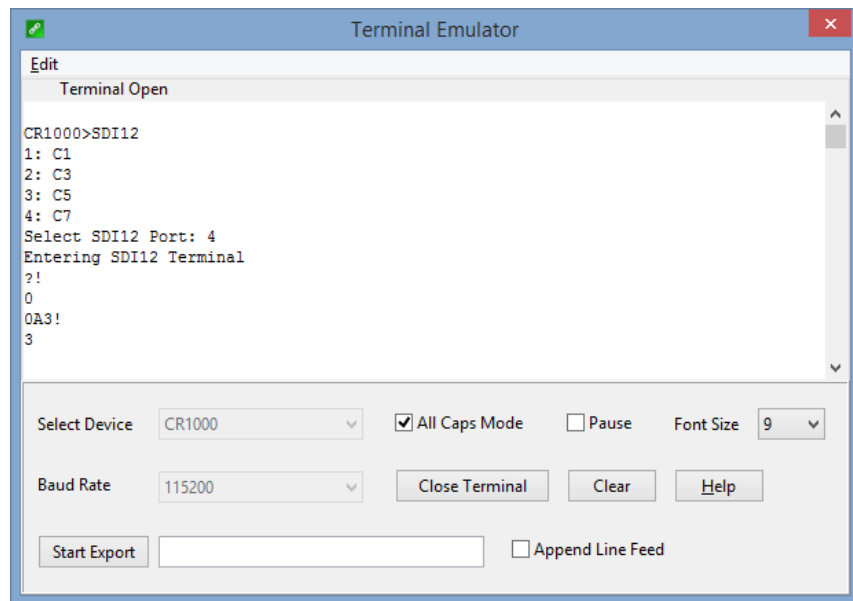

FIGURE D-1. CR1000 example of using the SDI-12 transparent mode to change the SDI-12 address from 0 to 3. Sensor is connected to control port 1.
10. To change the SDI-12 address, type **aAb!**, where *a* is the current address from the above step and *b* is the new address (see FIGURE D-1). Press Enter. The sensor will change its address and respond with the new address.
D.3.2 Changing an SDI-12 Address – CR200(X) Series